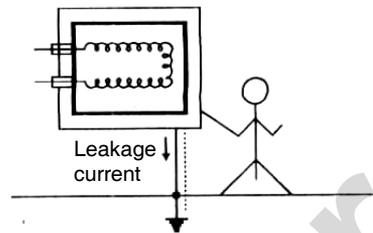

Fig. 3
- If the system is effectively grounded, then leakage current will flow through the earth connection to ground as shown in Figure 3.